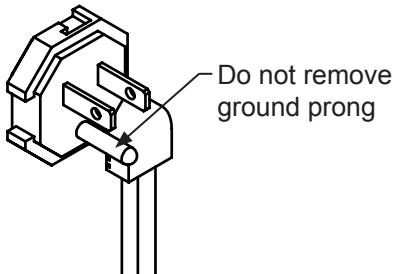

Figure 1
- Do not remove the grounding prong from the power cord. (See Figure 1).